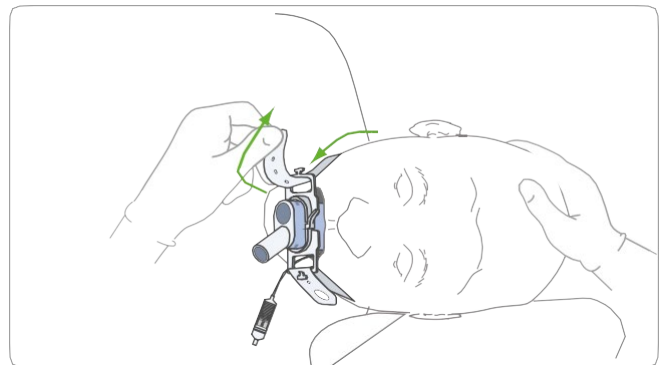

Figure 14. Bring the unsecured part of the strap behind and around the patient's head and secure it to the right handle of the holder
- In the left lateral position, secure one end of the strap to the left side of handle by looping the end of the strap through the wing of the holder and secure it to the hook on the outside. Bring the unsecured part of the strap behind and around the patient's head. Pull the strap through the right holder, apply sufficient tension to hold it in place and then secure it to the right handle of the holder as shown in **Figure 14**.